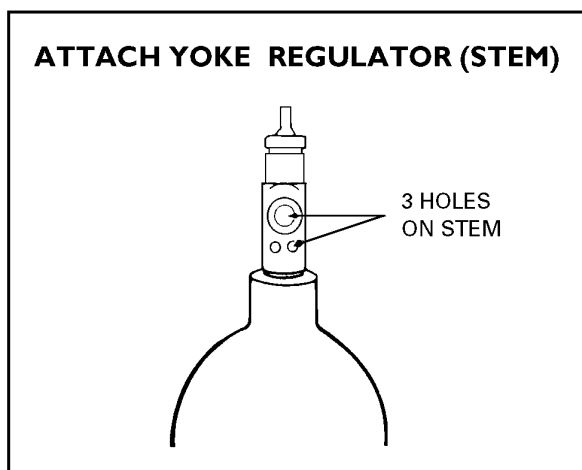

Figure 3-13
- (1) Locate the three holes on the oxygen cylinder stem and ensure that an "O" ring is present. (See Figure 3-13.)